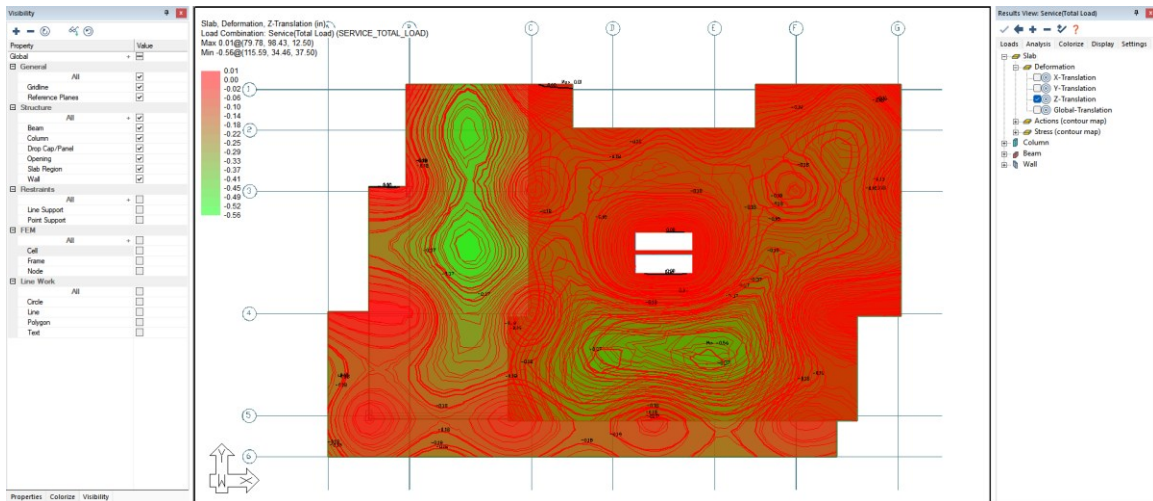

FIGURE 7-14
- Click on the *Zoom Extents*  icon. The user should now see the deflection contour for all levels as shown in **FIGURE 7-14** below.